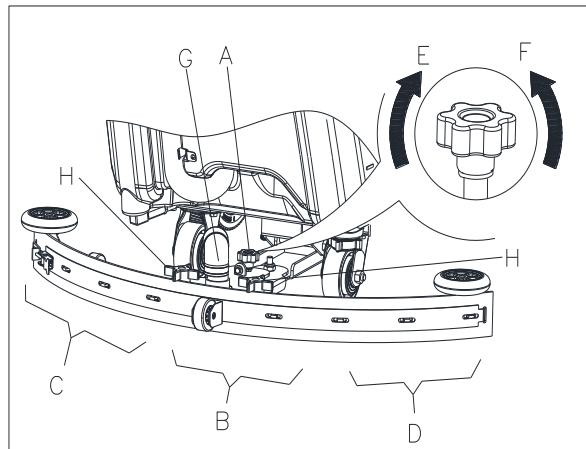

Figure 11
1. Install the squeegee and tighten up the nuts (H, Figure 11), then connect the vacuum hose (G) to the squeegee.
2. Adjust the squeegee by squeegee adjusting handle (A, Figure 11).
- a) If there is gap between the ground and middle **section** of rear squeegee blade (B), adjust the knob (A) in counterclockwise direction (F) until all sections of the rear squeegee blade make good contact with the ground, the front blade touches the ground slightly.
- b) If there is gap between the ground and both end section of rear blade (C and D), adjust the knob (A) in clockwise direction (E) until all sections of the rear squeegee blade make good contact with the ground, the front blade touches the ground slightly.